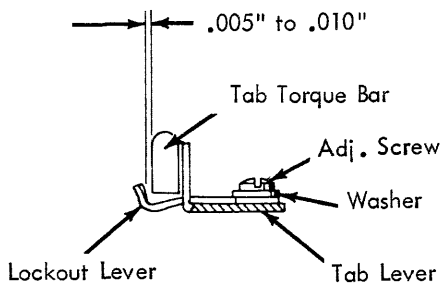

FIGURE 169. Lockout Lever (Early)
9. Lockout Lever (Fig. 169) (Early) - Position to clear the torque bar by .005" to .010" with the torque bar at rest.